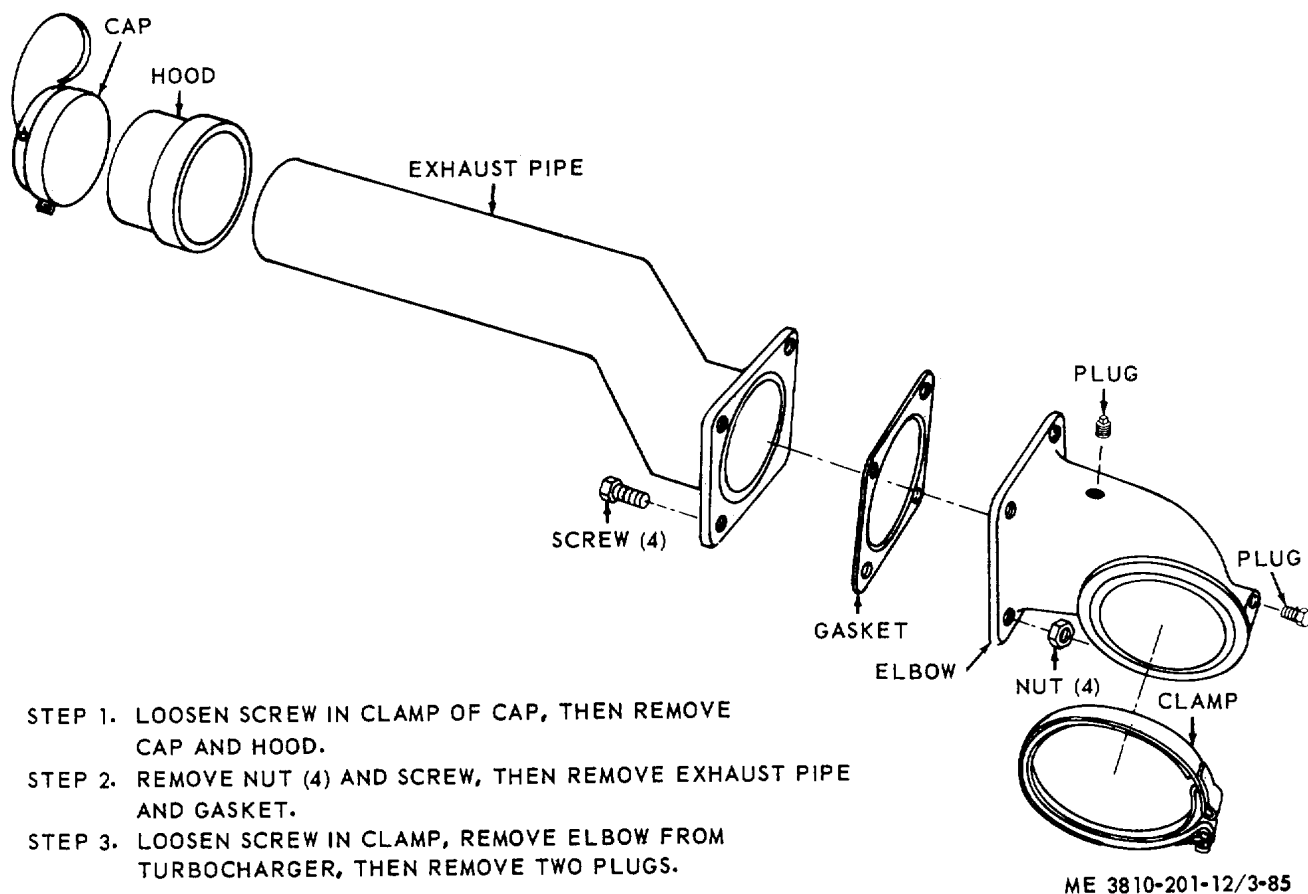

Figure 3-85. Exhaust pipe, hood, cap, and elbow, removal and installation (engine model D333TA).
b. *Engine Model D333TA.* Refer to figure 3-85 perform steps 1 and 2 and remove cap, hood, and